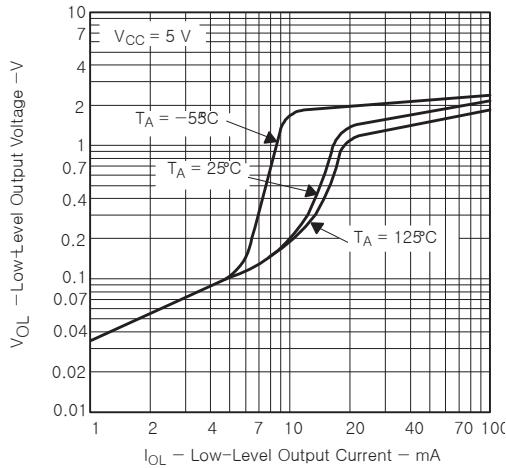

Figure 1. Low-Level Output Voltage vs Low-Level Output Current
1. This parameter influences the maximum value of the timing resistors R_A and R_B in the circuit on Fig 1. For example, when $V_{cc} = 5V$, the maximum value is $R = R_A + R_B = 3.4\text{ M}\Omega$, and $V_{cc} = 15V$, the maximum value is $10\text{ M}\Omega$.
5. Values specified are for a device in an astable circuit similar to Fig. 1, with component values as follow: $R_A, R_B = 1\text{K}\Omega$ to $100\text{ K}\Omega$, $C = 0.1\mu\text{F}$.